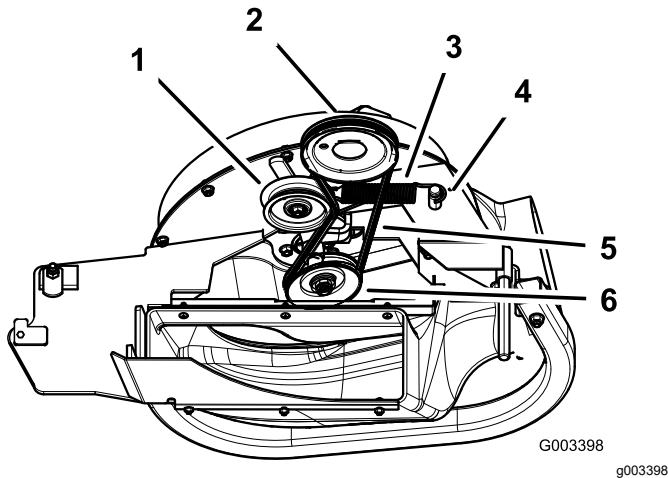

Figure 39
3. Pull back on the spring-loaded idler pulley to relieve the belt tension (Figure 39).
5. Install the new belt around the blower pulleys and the mower-deck pulley (Figure 39).
7. Pull back on the spring-loaded idler pulley and install the belt onto the spring-loaded idler pulley (Figure 39).